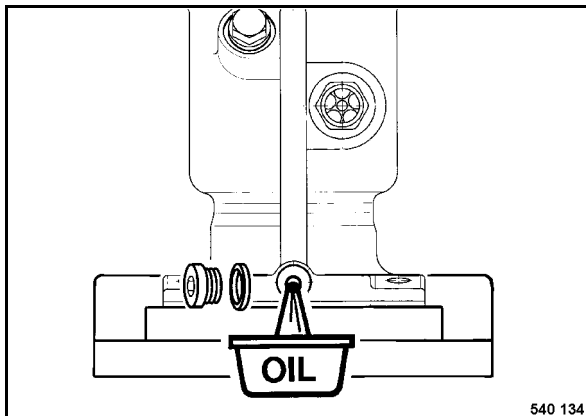

Fig. 56
- Clean and unscrew the oil drain plug (Fig. 56), let the old oil run out and catch it.